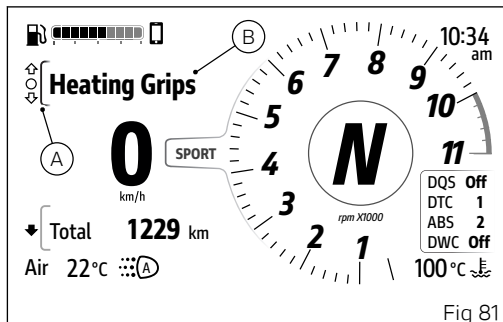

Fig 81
- Select the Interactive Menu (A, Fig 81) by pressing and holding button (1) pressed for a long time.
- Use buttons (1) and (2) to select item "Heated Grips" (B, Fig 81) and press the ENTER button (3).